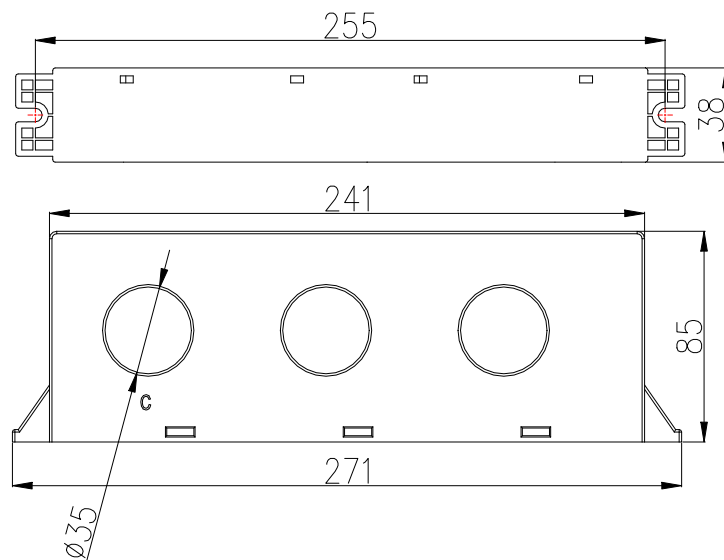

Figure 6 The external dimensions of split current transformer(250A and 800A current specification)
5.3.2 The external dimensions of split current transformer (250A and 800A current specification) are shown in figure 6 (Unit: mm):